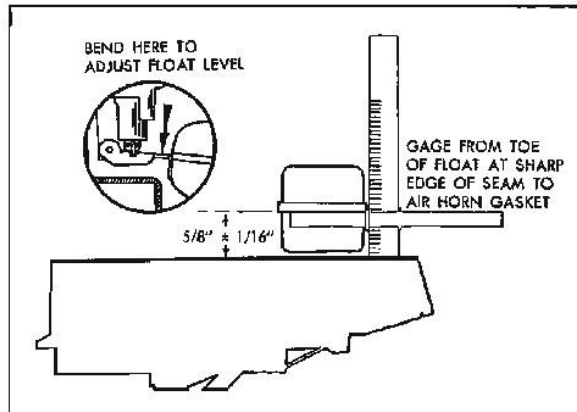

Fig. 6B-58 Float Level Adjustment
**FLOAT DROP ADJUSTMENT (Fig. 6B-59)**